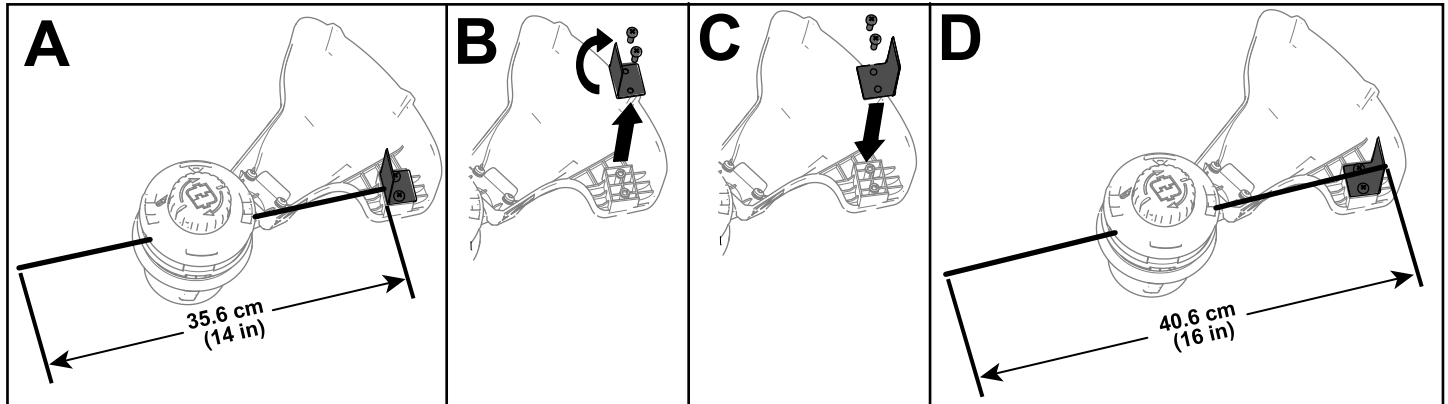

Figure 15
The trimmer comes from the factory with a cutting swath of 36.6 cm (14 inches) as shown in A of Figure 15. Refer to the following instructions to adjust the swath to 40.6 cm (16 inches) as shown in D of Figure 15.
1. Remove the swath blade from the bottom of the guard by removing the 2 screws holding it in place using the provided Allen wrench (B of Figure 15) and rotate the swath blade 180°.
2. Once the swath blade is rotated, install it onto the guard using the 2 screws previously removed (C of Figure 15).